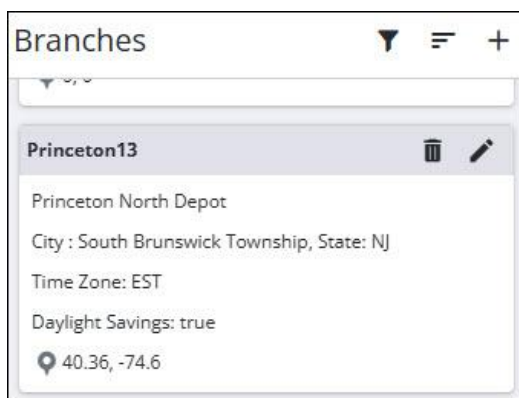

Figure 5 - Branch card within a list
2. Scroll to find the desired *Branch* card (see *Figure 5* above).